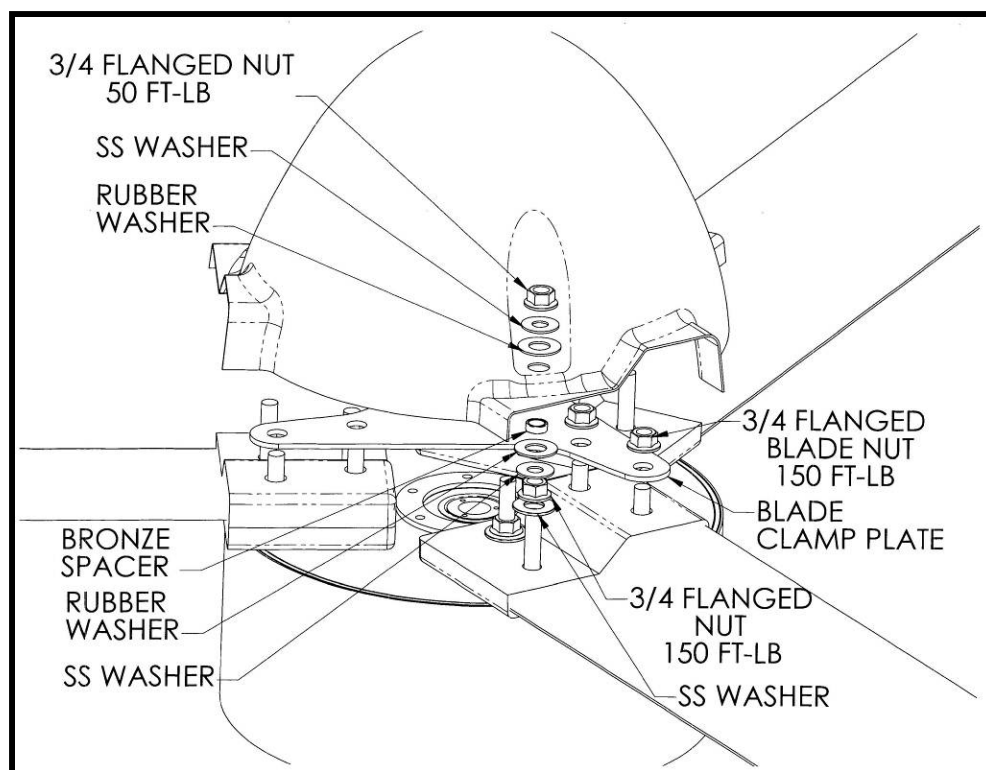

Figure 10: EXCEL Blade, Clamp Plate and Spinner Attachment
19. Attach the three blades to the powerhead as shown in **Figure 10**, with the hardware provided in the Blade and Spinner Hardware Kit (HK0003). The contents of HK0003 are shown in **Figure 10**.
- c. Attach the blade clamp plate so it fits over the six studs in the thick sections of the blade root pads. Only one blade orientation will allow this placement, as shown in **Figure 10**. Secure the clamp plate on the blade roots using six Spiralock nuts, **torqued to 150 ft-lb.** (Washers are not required).
20. Attach the spinner to the powerhead as shown in **Figure 10**, making sure that all hardware is ordered and positioned properly. The recommended procedure is as follows:
- a. Pre-assemble a stainless washer, rubber washer and bronze spacer in proper configuration (shown in **Figure 10**), fastened together with a small amount of silicone caulk. **Be sure the bronze spacer is *inside* the rubber washer and against the stainless washer.** Be sure the inner diameters of the stainless washer and spacer are properly aligned. Do this ahead of time for three separate assemblies, and use these assemblies when you are ready to attach the spinner.